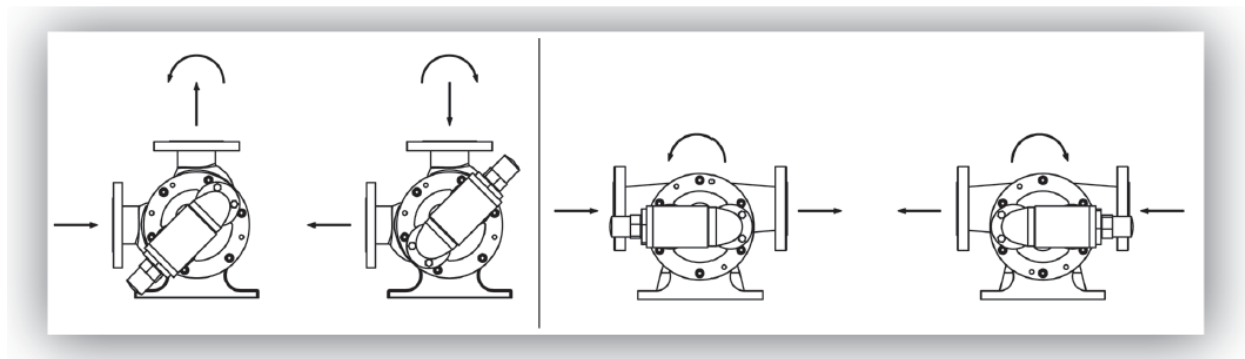

Figure 14. CW/CCW Rotation Directions of Shaft
- YILDIZ type pumps can be operated in revert direction. In case of having bypass, direction of bypass should be reverted as well if the pump to operate in revert direction. (See **Figure 14**)